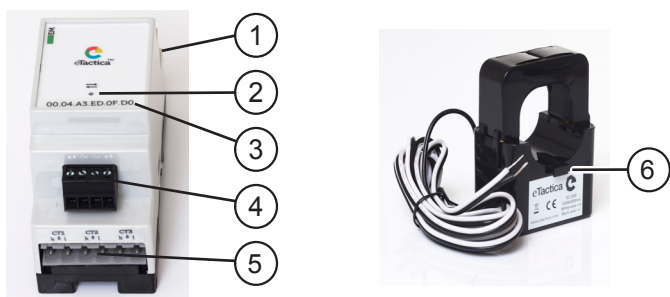

Fig. 1 Power Meter (example EM-SC) and current transformer (SC-500)
Modbus address range	01 to F7 hex (1 to 247 decimal), the default one is the last byte of the serial number, see pos. 3 in Fig. 1.
- ▶ Fasten the CTs to the conductors with cable ties by using the tabs on the CT (pos 6 in Fig. 1).
- ▶ Plug the terminal plug into the Power Meter (pos. 2 in Fig. 1).
- ▶ Connect the cable to the Power Meter (pos. 4 in Fig. 1).
A LED light (pos.2 in Fig. 1) indicates the status according to the following: